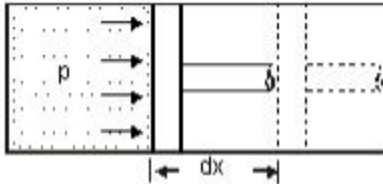

Figure 2.4 Displacement work
- Consider a piston cylinder arrangement as given in the Figure 2.4.